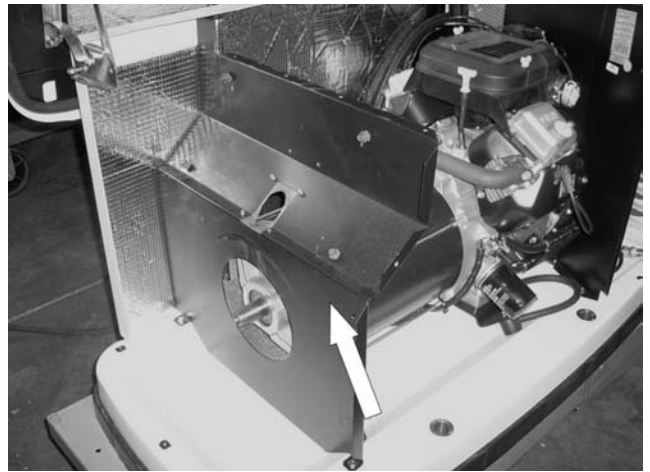

Figure 195.
11. **Remove Alternator Divider Panel:** Using a 10mm socket remove two bottom base bolts. Using a T27 torx driver remove one top rear bolt. Remove the panel. See Figure 195.